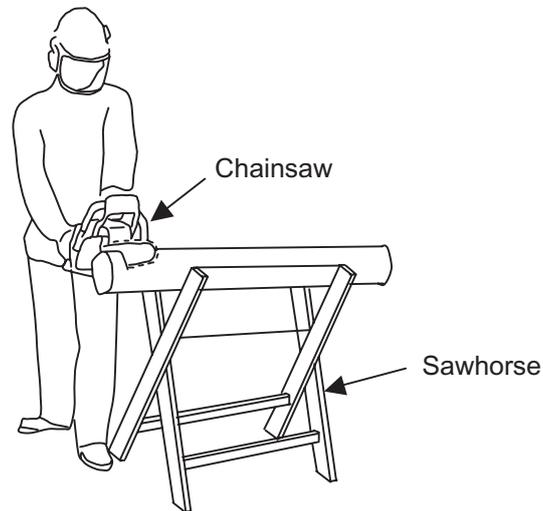

Fig. 3(a)
- 3 **Fig. 3(a)** shows a chainsaw and sawhorse used to cut up logs for burning on open fires or wood burning stoves.